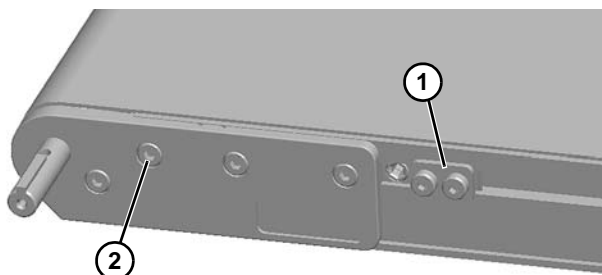

Figure 9
- If drive tail is equipped with tracking cam assemblies (**Figure 9, item 1**), remove 3rd head plate screw (**Figure 9, item 2**), from head plate with the output shaft.